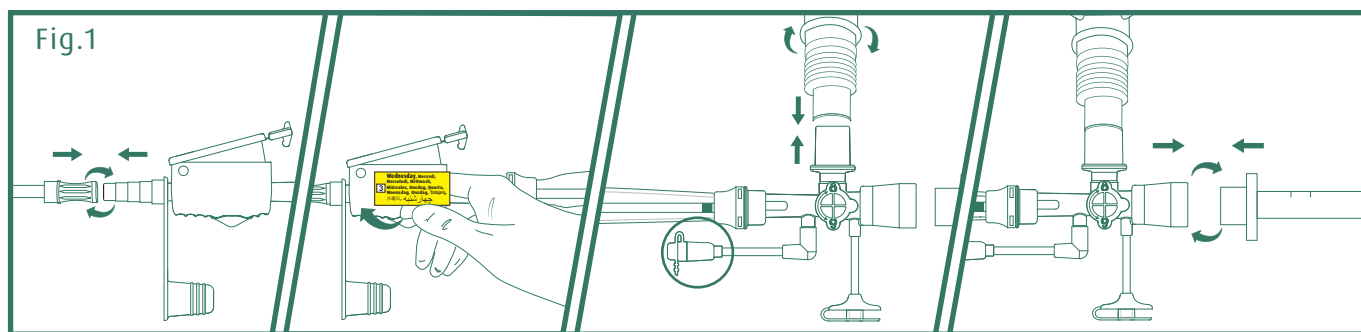

Fig.2
5. **(Fig. 2)** Unlock the cover of the vacuum control device (H) . The operation of isolation valve (N) must be rotated to an open position.